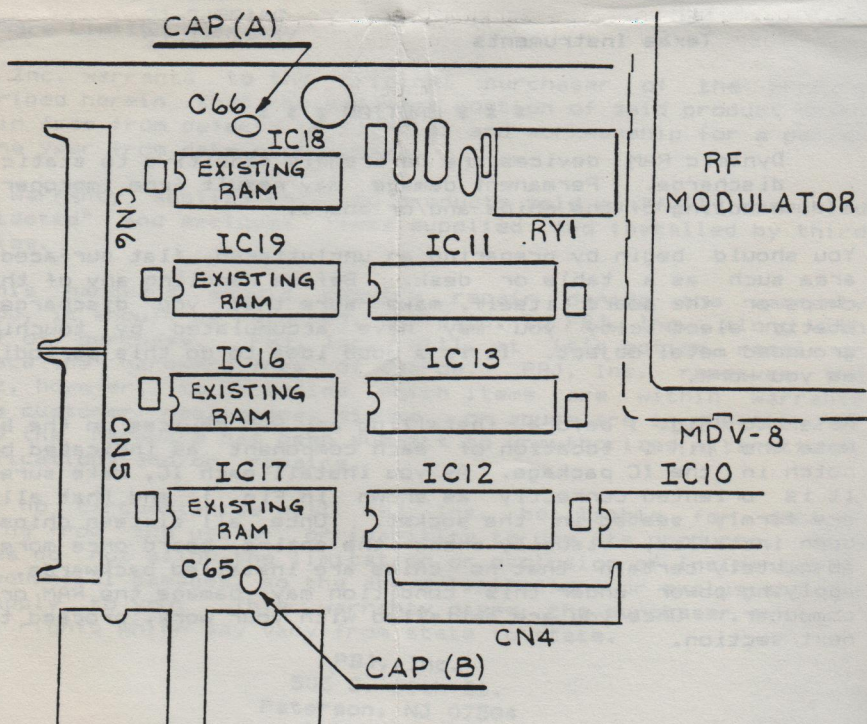

FIG. 2
2. Turn the computer upside down and locate the five (5) screws holding the top and bottom cover sections together. One of the screws is covered with a warranty security label. You should note that opening the case will void the warranty on your Color Computer 3. If you do not wish to void your warranty at this time, do not proceed any further.
3. Using a Phillips screwdriver, remove the five (5) screws. Then, while holding the top and bottom cover sections together, turn the computer upright. You will now be able to lift the cover off the computer and expose the motherboard.
4. Using Fig. 2 as a reference, locate the two (2) connectors on the motherboard, a long twenty-four (24) pin connector, and a shorter twelve (12) pin connector. These will be used to mount the 512cc Board on the motherboard.
5. Before you install the 512cc Board, you must remove the four existing 64K x 4 RAM chips from the motherboard. The location of these devices is identified in Fig. 2. Use a small screwdriver to pry the chips out of their sockets.
6. Next you must disconnect or remove two capacitors labeled CAP (A) and CAP (B) in Fig. 2. You can do this by simply clipping one or both of the leads of each capacitor with a small cutting pliers.
10. If everything is working properly, replace the cover on the computer and secure the top and bottom sections by re-installing the five (5) screws you removed earlier. Reconnect all cables and peripherals. The installation is now complete.